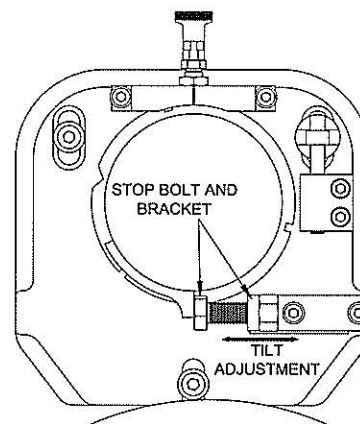

Figure 2
- If there is an uneven gap between electrodes, adjust the electrode assembly stop bolt to achieve an even air gap between each electrode and the ground roll (**Figure 2**).
Open the assembly(s) by releasing the captive screws or twist latches and inspect the cooling air ports, insulating shroud, HV wires and the various electrode mounting components, Figure 2.